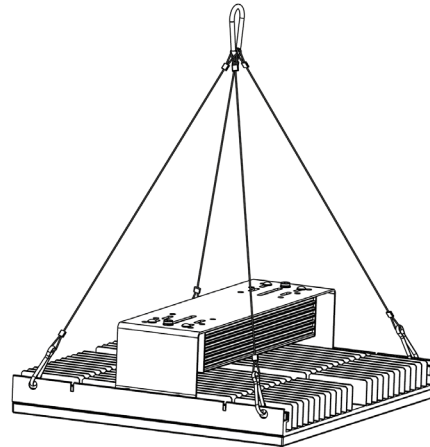

Figure 3
Step 2: Attach wiring slings to the Rope Pulley. Figure 3